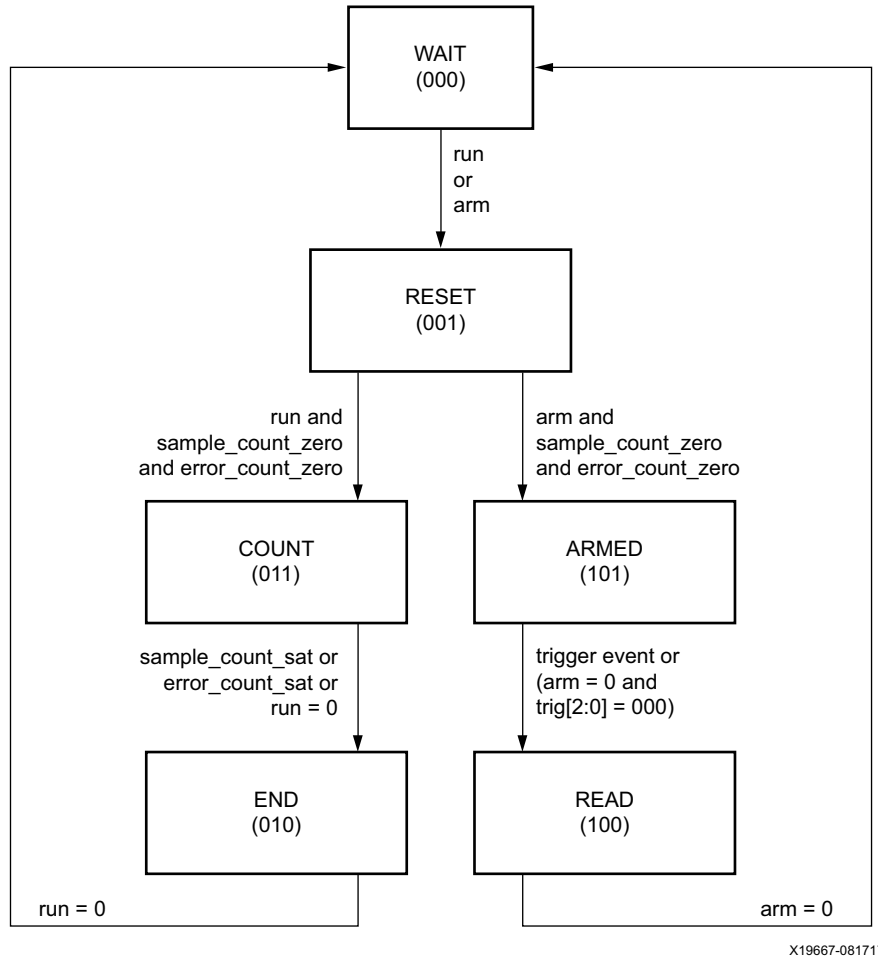

Figure 4-20: Eye Scan State Machine
- Run mode (the left loop in Figure 4-20) supports statistical data collection for statistical eye, waveform, and scope views. It initiates operation of the sample counter and error counter as described above, stopping the operation when either the sample counter or the error counter saturates (reaches its maximum value), or when a DRP operation terminates Run mode.
- Arm mode (the right loop in Figure 4-20) supports the capture of Rdata and Sdata snapshots (by disabling further FIFO operation) that can be read out through the DRP interface. Arm mode can be used, for example, to determine data patterns that are prone to causing poor eye margin. These patterns can then drive generation of waveform views for further analysis. The state machine can be configured to stop Rdata and Sdata FIFO operation in these cases:
Figure 4-20 documents the state transitions in the eye scan state machine.